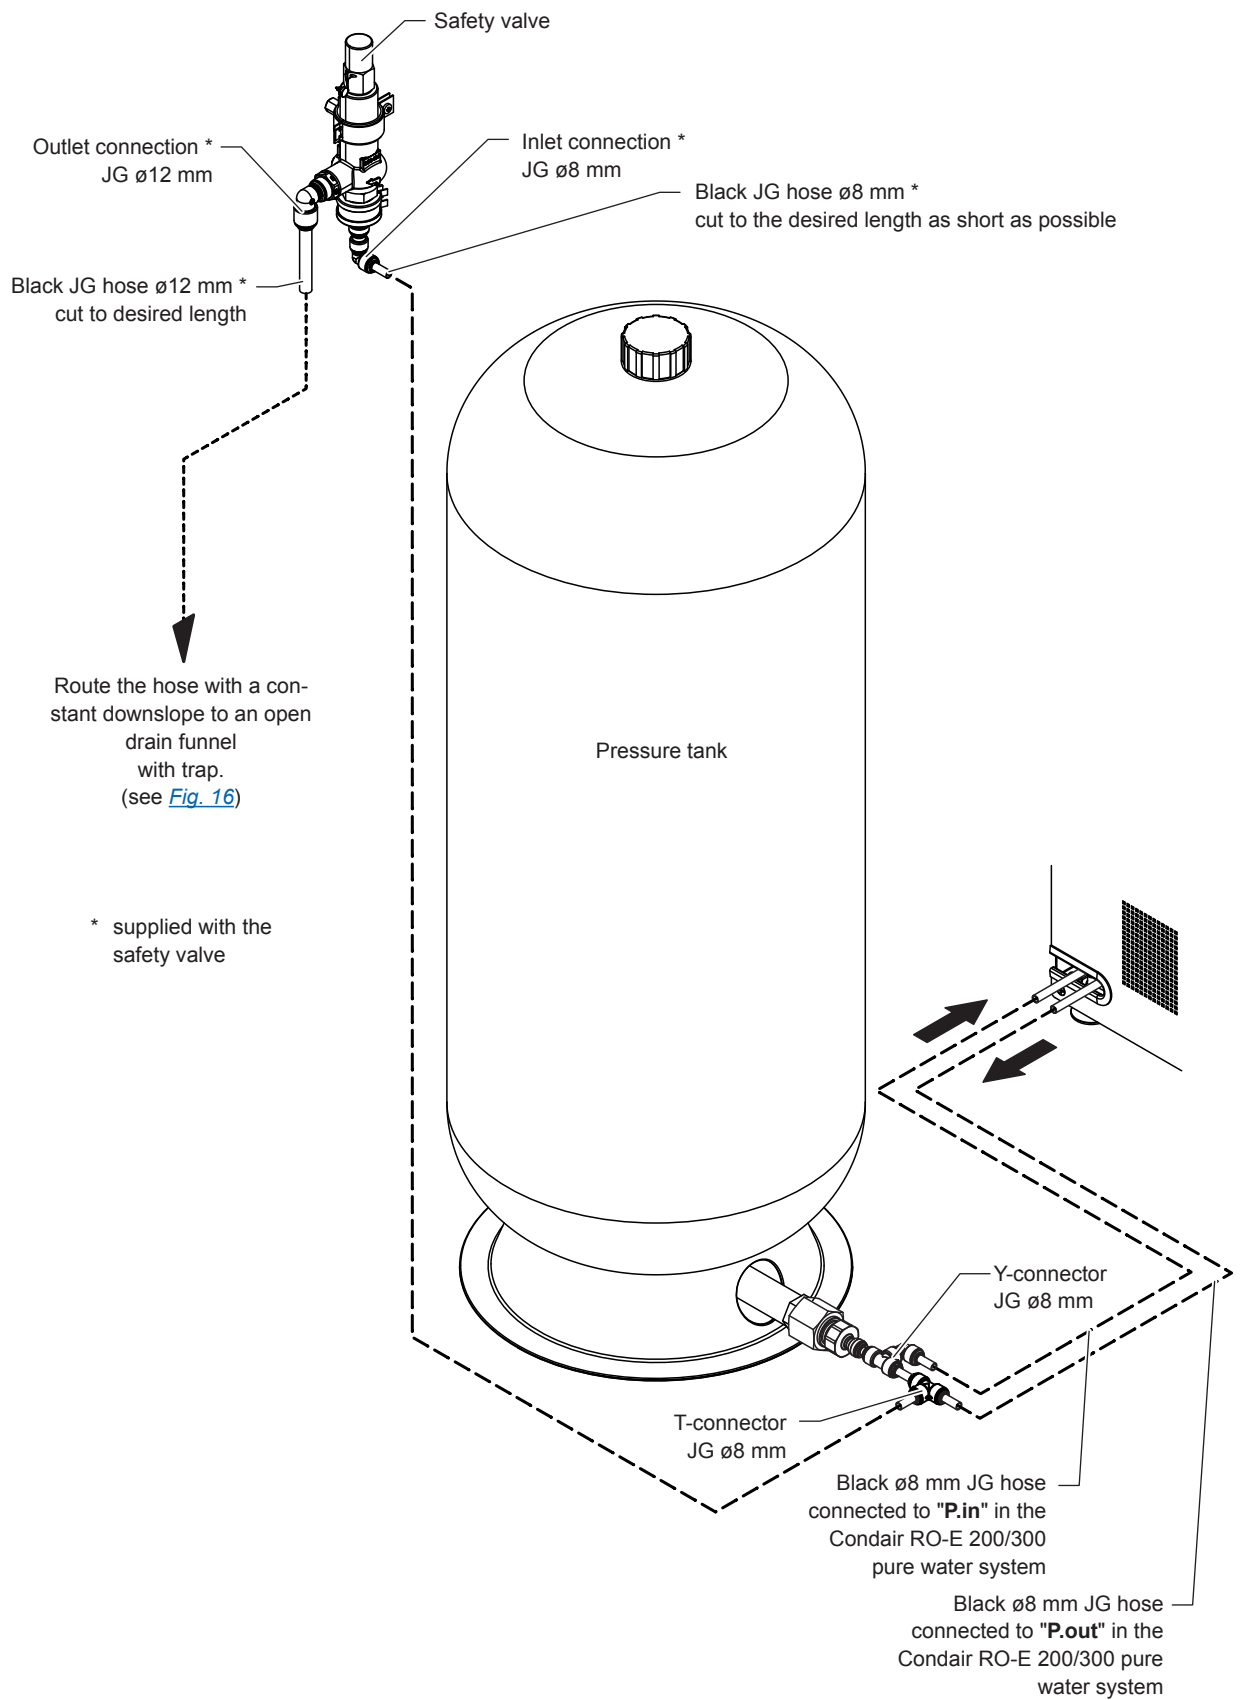

Fig. 29: Connecting the pressure tank safety valve to the Condair RO-E 200/300 pure water systems
1. Connect the JG hose $\varnothing 8$ mm from the "P.out" port of the Condair RO-E 200/300 pure water system via the JG8 T-connector to the JG8 angle connector of the safety valve (see Fig. 29).
2. Connect the supplied $\varnothing 12$ mm JG hose to the JG12 outlet connection of the safety valve and route the hose with constant downslope to the open drain funnel with trap (see Fig. 29).